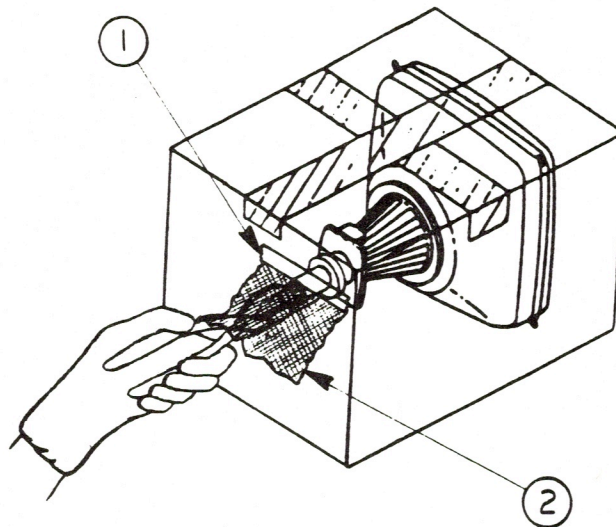

FIGURE 6
6. Tape the piece of cloth or paper onto the box (Figure 6, #1) so that it forms a veil over the opening (Figure 6, #2), but allows your hand access to the tip of the CRT. The veil's purpose is to catch bits of glass that may fly during the following step.
7. Make sure no one is standing nearby. Place the pliers under the veil and stand to one side and look away while you use the pliers to snip off the exposed tip of the CRT (see Figure 6).